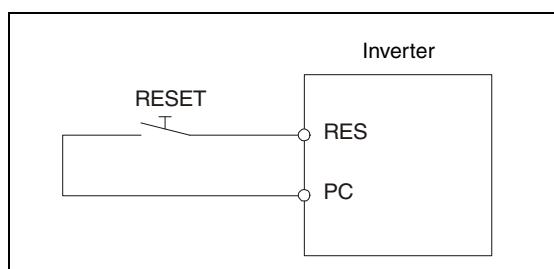

Fig. 7-3:
- Turn on the reset signal RES for more than 0.1s. (Connect the terminals RES and SD when using sink logic or terminals RES and PC as shown Fig. 7-3 when using source logic).